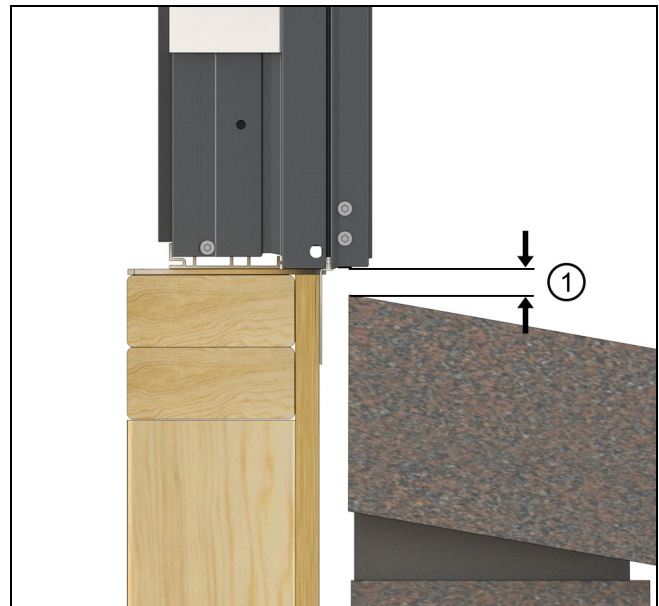

Figure 3 Avoid brick bind, maintain 1/2" gap
On standard wood frame construction with brick veneer, make sure there is at least 1/2" (13) between the bottom of the window sill (or eventual placement of the window) and the top row of brick to avoid "brick bind". See Figure 3.